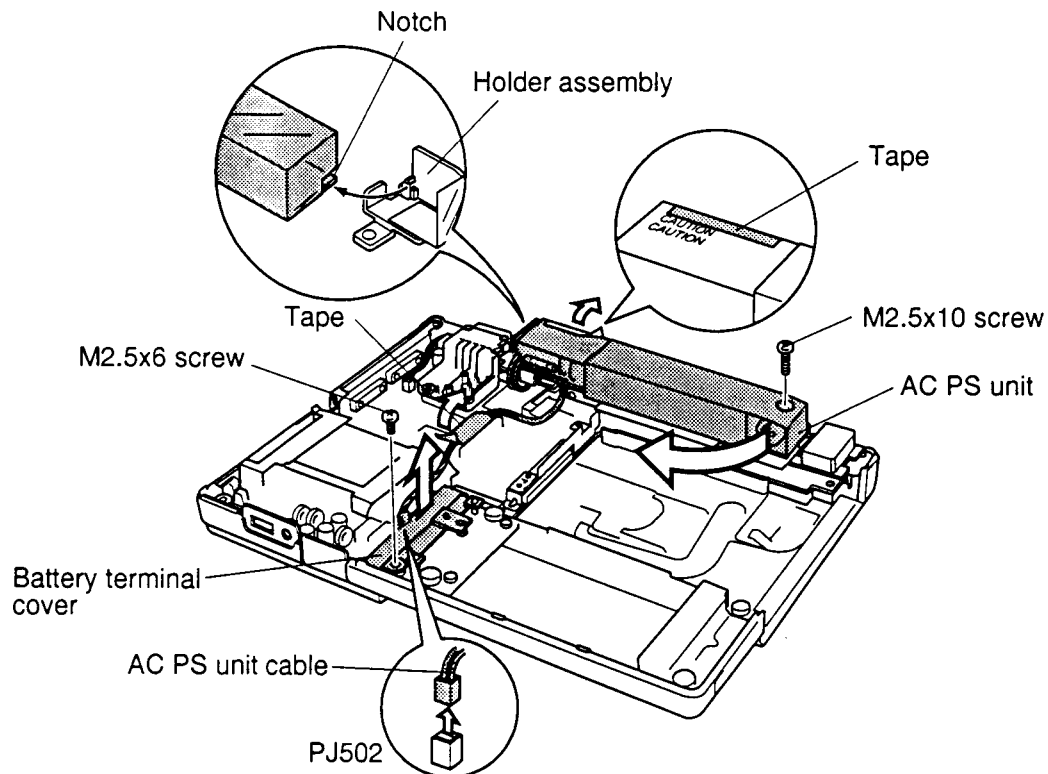

Figure 4-36 Removing the AC PS unit
To remove the AC PS unit, follow the steps below and refer to Figures 4-36 and 4-37.
3. Seat the **AC PS unit**. Be sure to fit the AC PS unit's plastic cover into the notch on the holder assembly (Figure 4-36).
4. Secure the **tape** to the **plastic plate** and the **AC PS unit**. Make sure the tape is placed just above the word "CAUTION" (Figure 4-36).